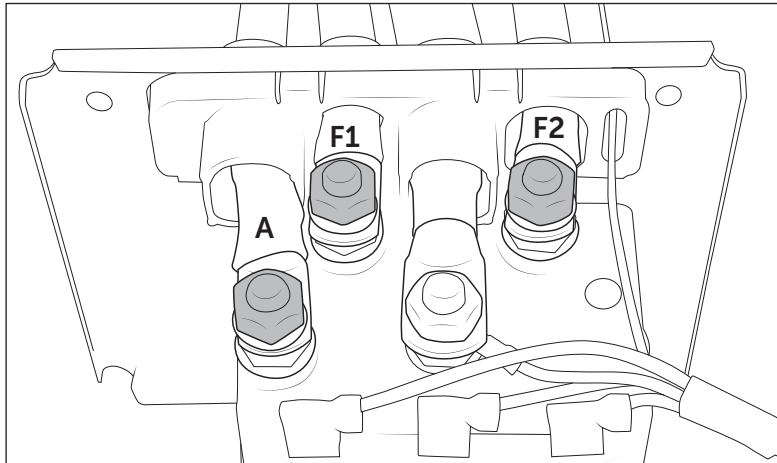

Figure 10
2. Disconnect the leads labeled A, F1, and F2 and remove the Warn harness from the controller (fig. 10).